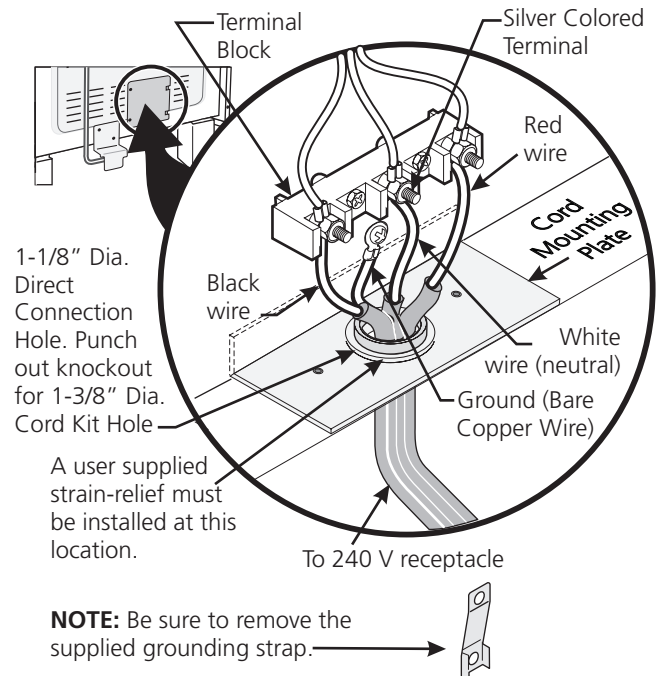

Figure 4
For mobile homes, new installations, recreational vehicles, or areas where local codes do not permit grounding through neutral, a 4 conductor power supply cord kit rated at 125/250 volts and marked for use with ranges should be used (see Figure 4).
4. Connect the ground wire (green) of the power supply cord to the frame of the appliance with the ground screw, using the hole in the frame where the ground strap was removed (see Figure 4).
6. Replace the 3 nuts on the terminal block (see figure 4).
If the appliance is connected directly to the circuit breaker, fuse box or junction box, use flexible, armored or non metallic sheathed copper cable (with grounding wire). Supply a U.L. listed strain-relief at each end of the cable. At the appliance end, the cable goes through the Direct Connection Hole (see Figure 4) on the Cord Mounting Plate. Wire sizes (**copper wire only**) and connections must conform to the rating of the appliance.